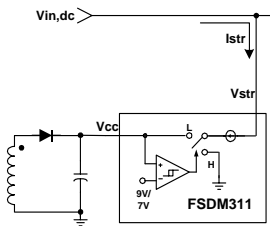

Figure 4. Internal startup circuit
**1. Startup :** At startup, the internal high voltage current source supplies the internal bias and charges the external Vcc capacitor as shown in Figure 4. In the case of the FSDM311, when Vcc reaches 9V the device starts switching and the internal high voltage current source is disabled. The device continues to switch provided that Vcc does not drop below 7V. After startup the bias is supplied from the auxiliary transformer winding.